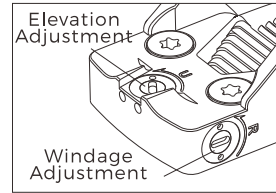

Fig 7
- 3) Adjustment can be performed by inserting the flat tipped end of the included tool into the turret slot and rotating. See Fig 7.